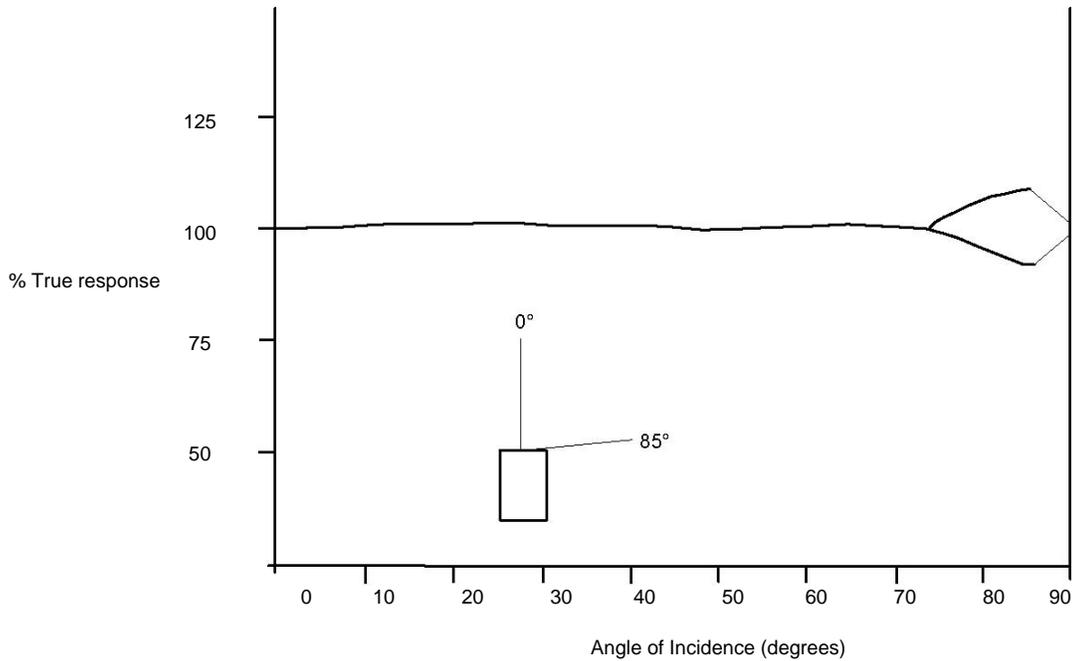

Figure 2 Typical Cosine Response Error for SP1110
- Cosine corrected head (typical errors zero $0\text{-}70^\circ$, $< 10\%$ $85\text{-}90^\circ$; see Figure 2)